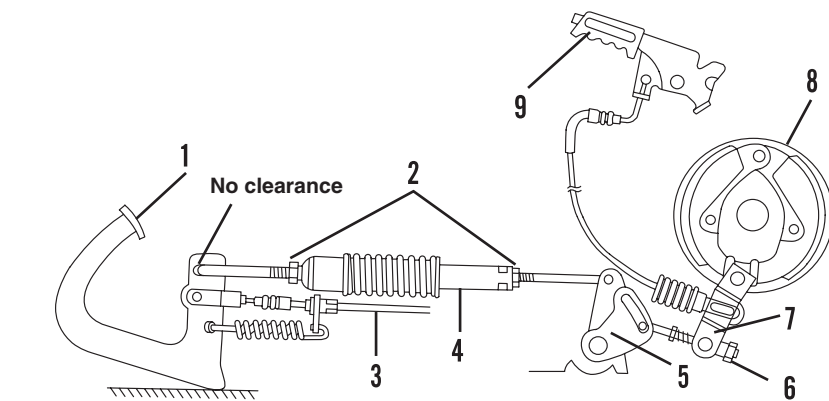

Fig. HN1-14—Adjust brake rod (4) so there is no clearance between the end of the brake rod and front end of brake pedal slot.
Depressing the brake pedal disengages the drive clutch and applies the brake. Brake pedal rod must be adjusted so there is no clearance (Fig. HN1-14) between the end of operating rod and the front end of the brake pedal slot when the brake pedal is released. To adjust, loosen the jam nuts (2) and turn the brake rod (4) to remove any clearance.
When new brake shoes are installed, turn the cam plate rod adjusting nut (6—Fig. HN1-14) so there is a slight clearance between the rod end and the bottom end of the slot in the cam arm plate (5) when the brake pedal is released.